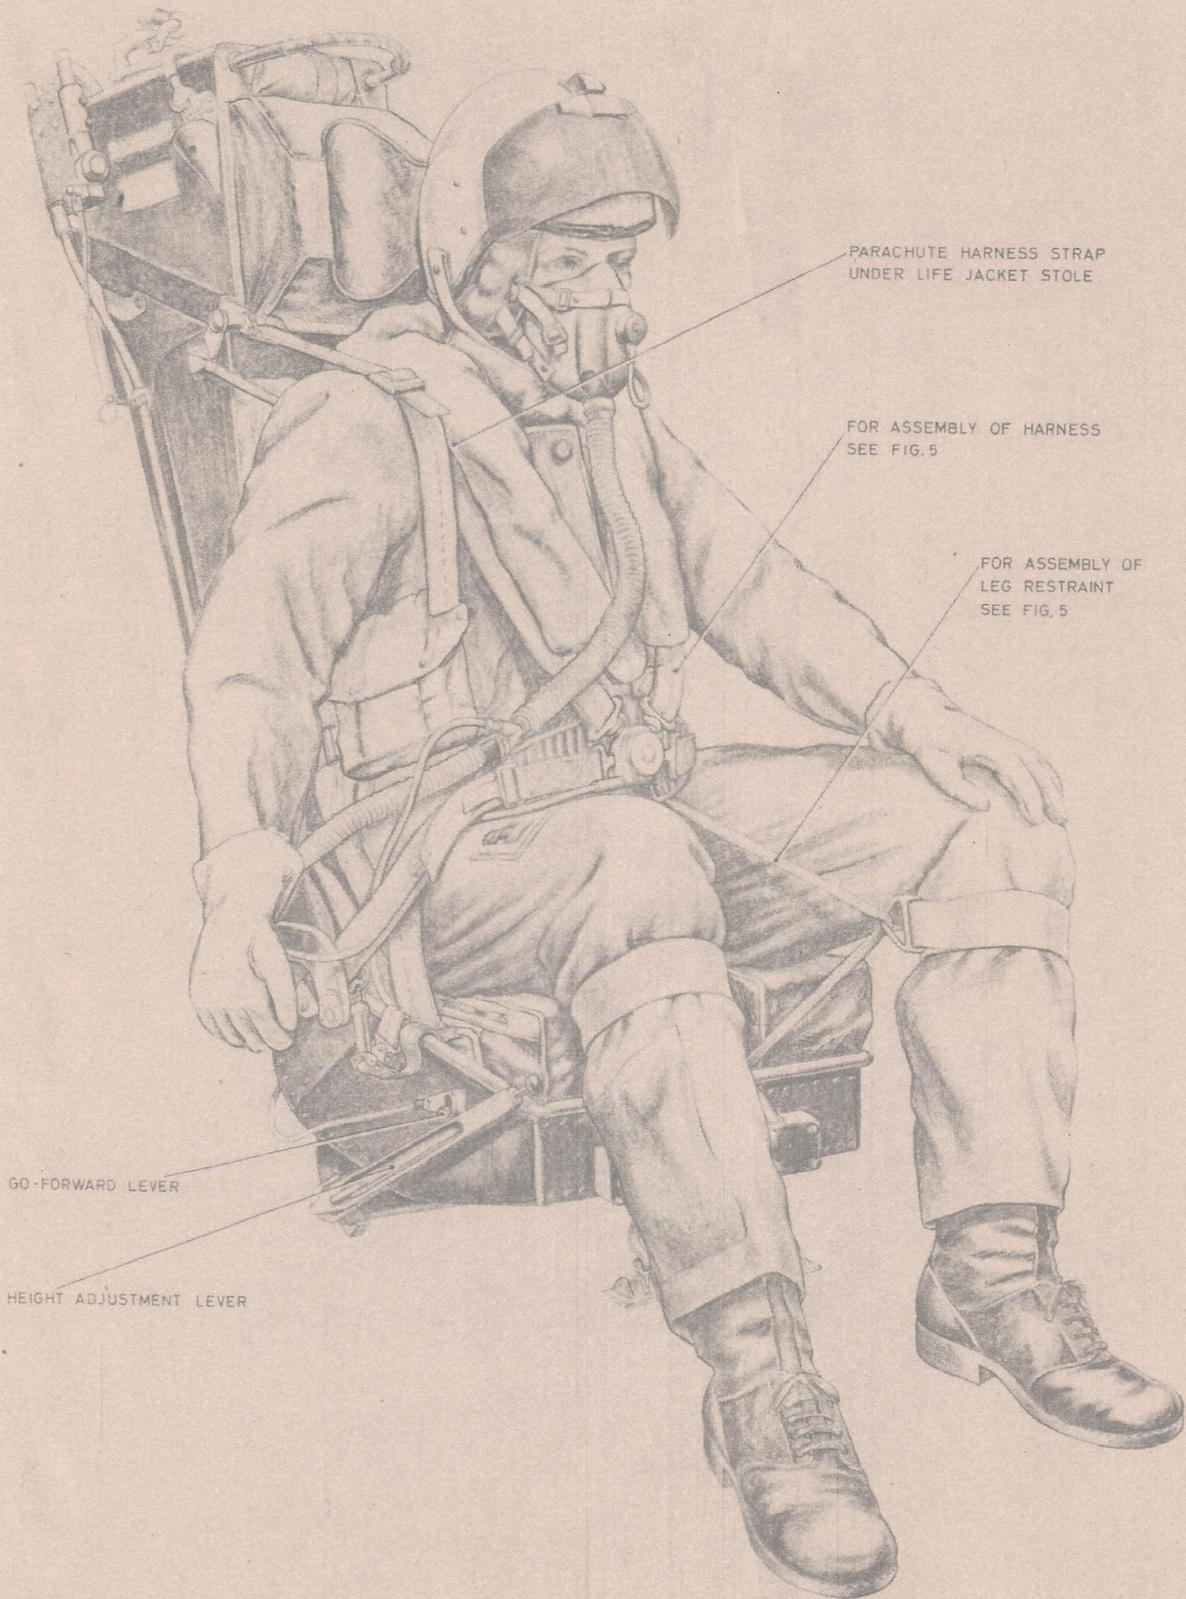

Fig. 3 The ejection seat occupied (1)
15. The strapping-in procedure is as follows; refer to fig. 3, 4 and 5 for detail as necessary: -